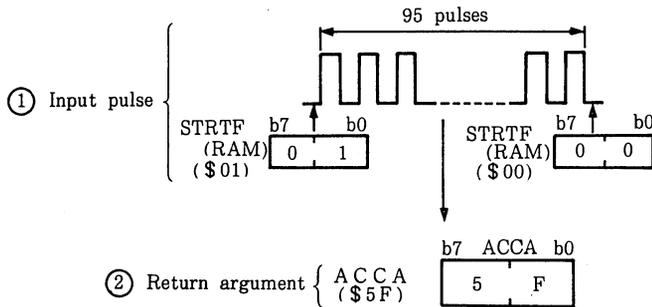

Figure 5-5. Example of PLSCNT Execution
- b. Example of PLSCNT execution is shown in figure 5-5.
- i. If bit 0 of entry argument STRTF(RAM) is set to "1", input pulse count starts as shown in port ① of figure 5-5.
- ii. If bit 0 of entry argument STRTF(RAM) is set to "0" as shown in part ② of figure 5-5, input pulse count result is stored as shown in part ② of figure 5-5.